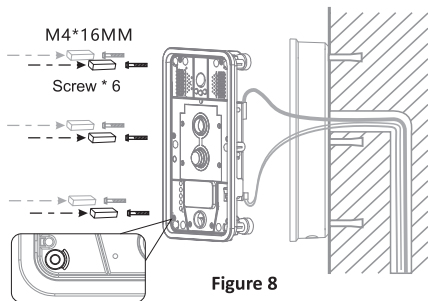

Figure 8
- After locking the 6 screws into the corresponding position of the plastic housing, the 6 conductive sponges is loaded into a screw hole. As shown in Fig. 8, the rear shell is locked.